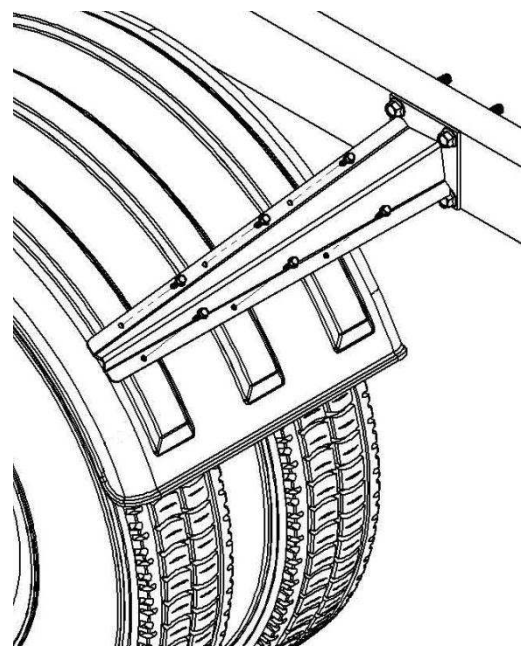

Figure 6
- Make sure the fenders are square and aligned (Figure 6). Twists or bows in the fender will fatigue the material over time.